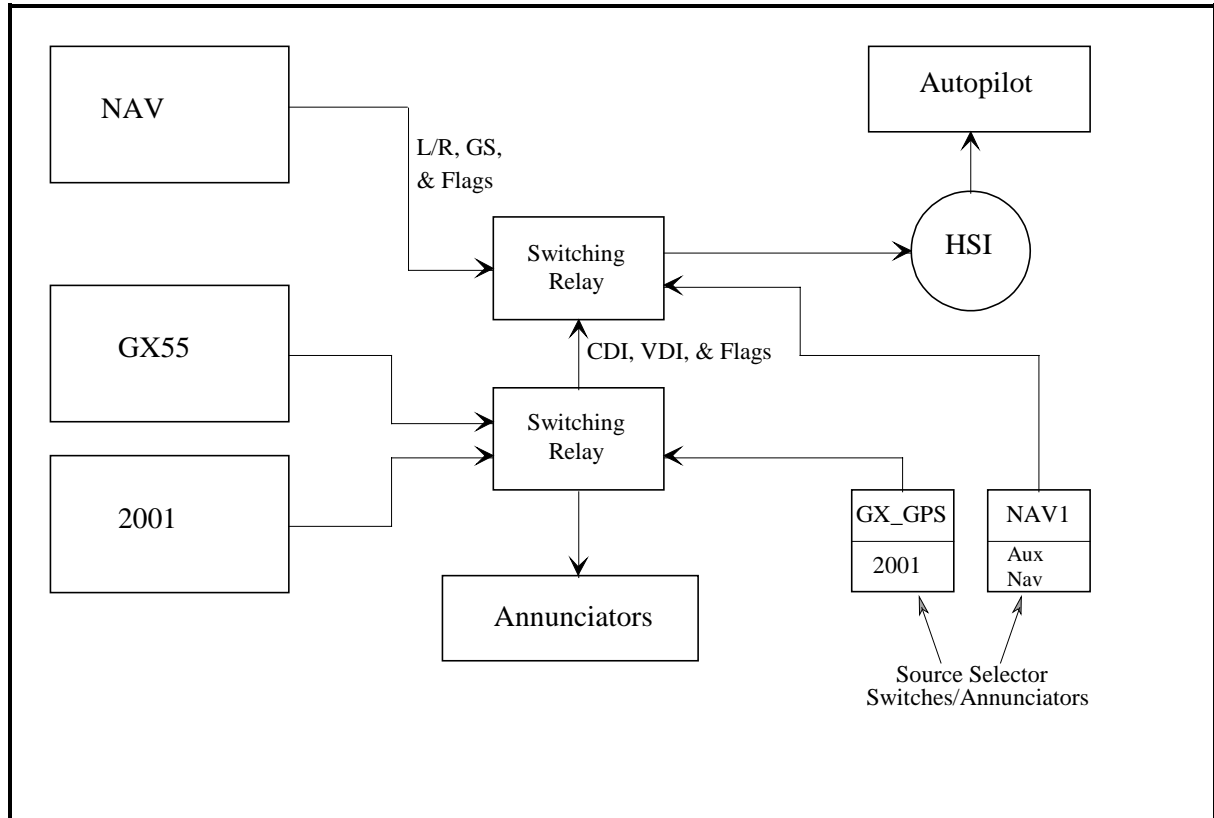

Figure 3: GX55 Navigation System Block Diagram
The **Apollo GX55 GPS** is a TSO-C129 Class A(2) GPS navigation system. The GX55 GPS system is installed using the guidelines of AC 20-138. The GX55 GPS system is illustrated in Figure 3: GX55 Navigation System Block Diagram.
The Apollo GX55 GPS system is connected to the aircraft HSI indicator and autopilot systems using switching relays and source selection switches. The navigation source selection connections are illustrated in Figure 3: GX55 Navigation System Block Diagram. The procedure for selecting the navigation source is included in section 4.5 on page 10.